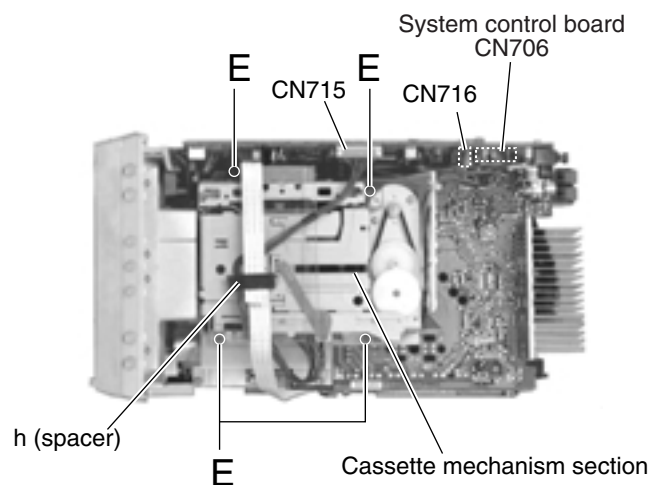

Fig.8
■ Removing the cassette mechanism assembly section (See Fig.8)